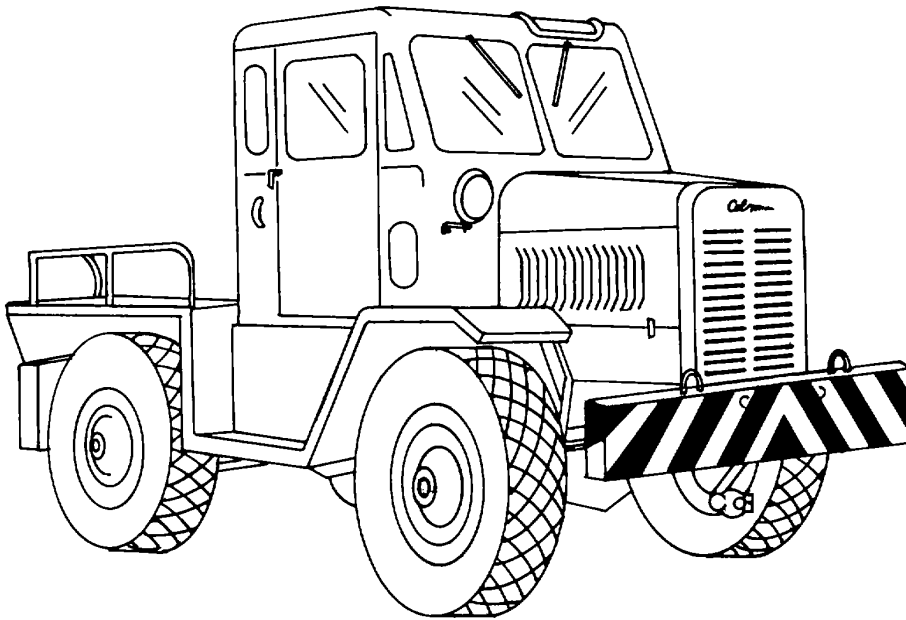

Figure 9-21. Type MB-4 Tow Vehicle
*n. Aircraft Towing Vehicle.* The aircraft tow vehicle, shown in figure 9-21, is used to move an aircraft from one spot to another. A towbar is the connection between the two vehicles and the aircraft.